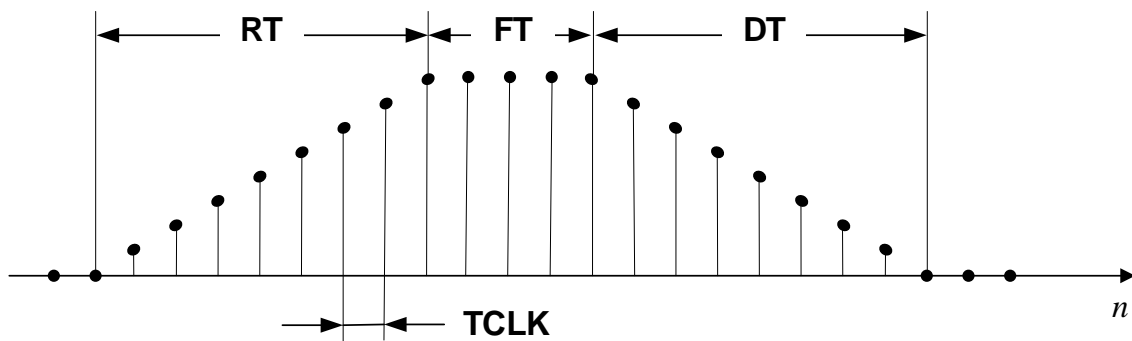
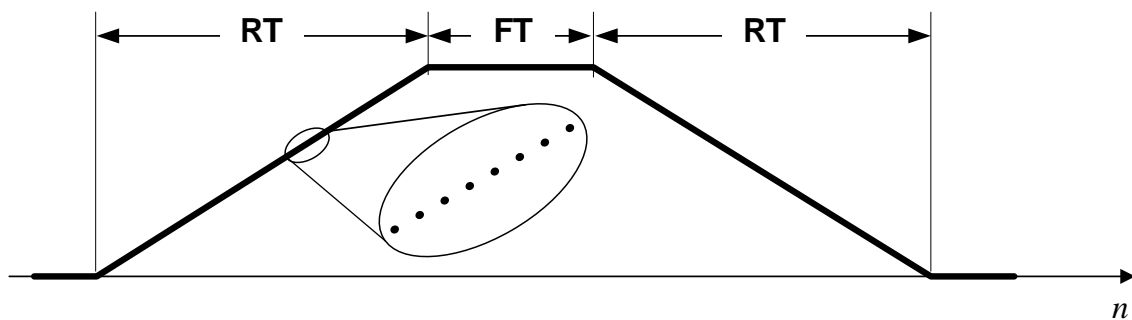

Fig. 1 Digital trapezoidal signal.
Fig. 2 Graphical representation of the digital trapezoidal signal.
Fig. 1 shows an example of digital signal. The digital trapezoidal pulse has 3 distinctive temporal features: rise time (RT), flat top (FT), and decay time (DT). For symmetric pulse shapes, $DT=RT$. Fig. 2 shows the graphical representation of the digital signal of Fig. 1 when the spacing between the samples is very small compared to the total duration of the signal. In this case, the digital signal is represented as a "continuous" line of closely spaced dots. In this document, the digital signals will be drawn as continuous lines only as a graphical presentation of the otherwise quantized, discrete-time domain signals.